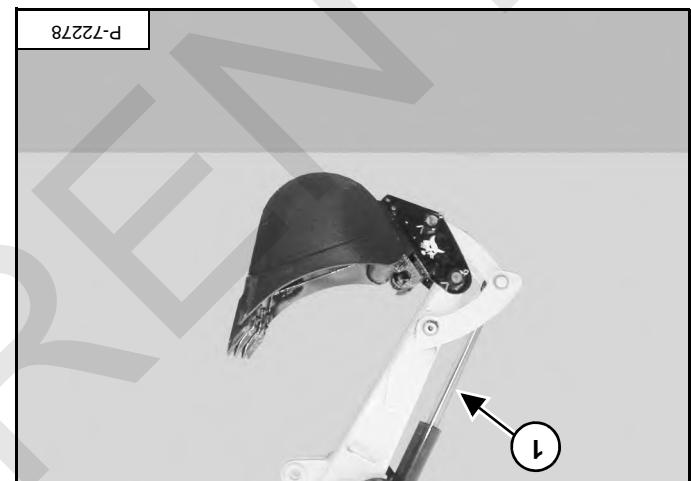

Figure 103
Extend the bucket cylinder (item 1) [Figure 103] fully.